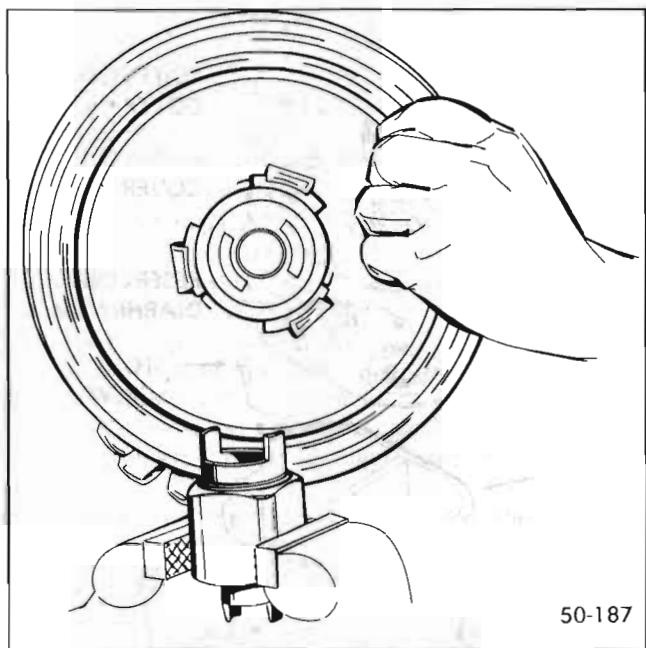

Figure 50-80 Positioning Primary Power Piston In Tool J-23101 (Small Dia. End Up) Mounted In Vise
10. Mount tool J-23101 in a vise (*with small diameter end up*). Position the primary power piston so that the two radial slots in the piston fit over the ears (tang) of the tool. See Figure 50-80.
16. Mount Tool J-23101 (small diameter end up) in a vise. Position the primary power piston so that the two radial slots in the piston fit over the ears (tangs) of the tool. See Figure 50-80.